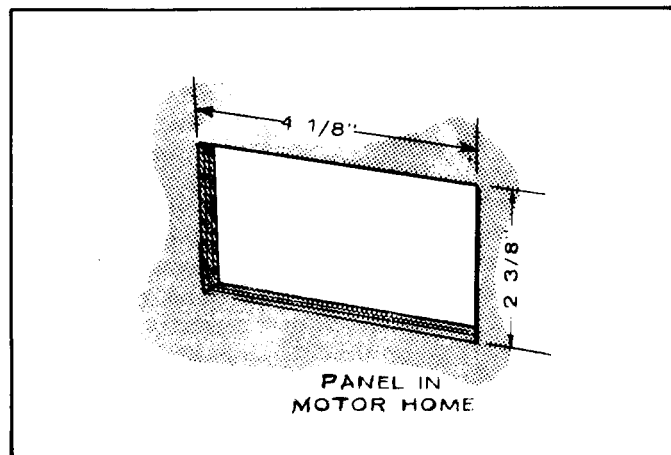

FIGURE 62. PANEL CUTOUT (300-0986)
1. Determine location of remote control and cut a hole in motor home panel to accommodate control (Figure 62).